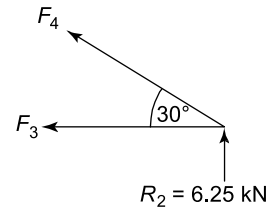

Figure 7.36
Consider joint (2); see Figure 7.36.